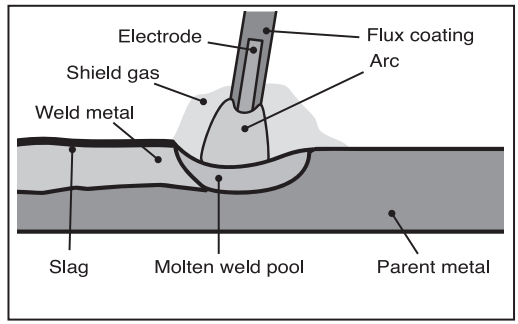

FIG. 9
7.5 MMA/ARC WELDING FILLER ROD (ELECTRODE) SELECTION – FIG.9